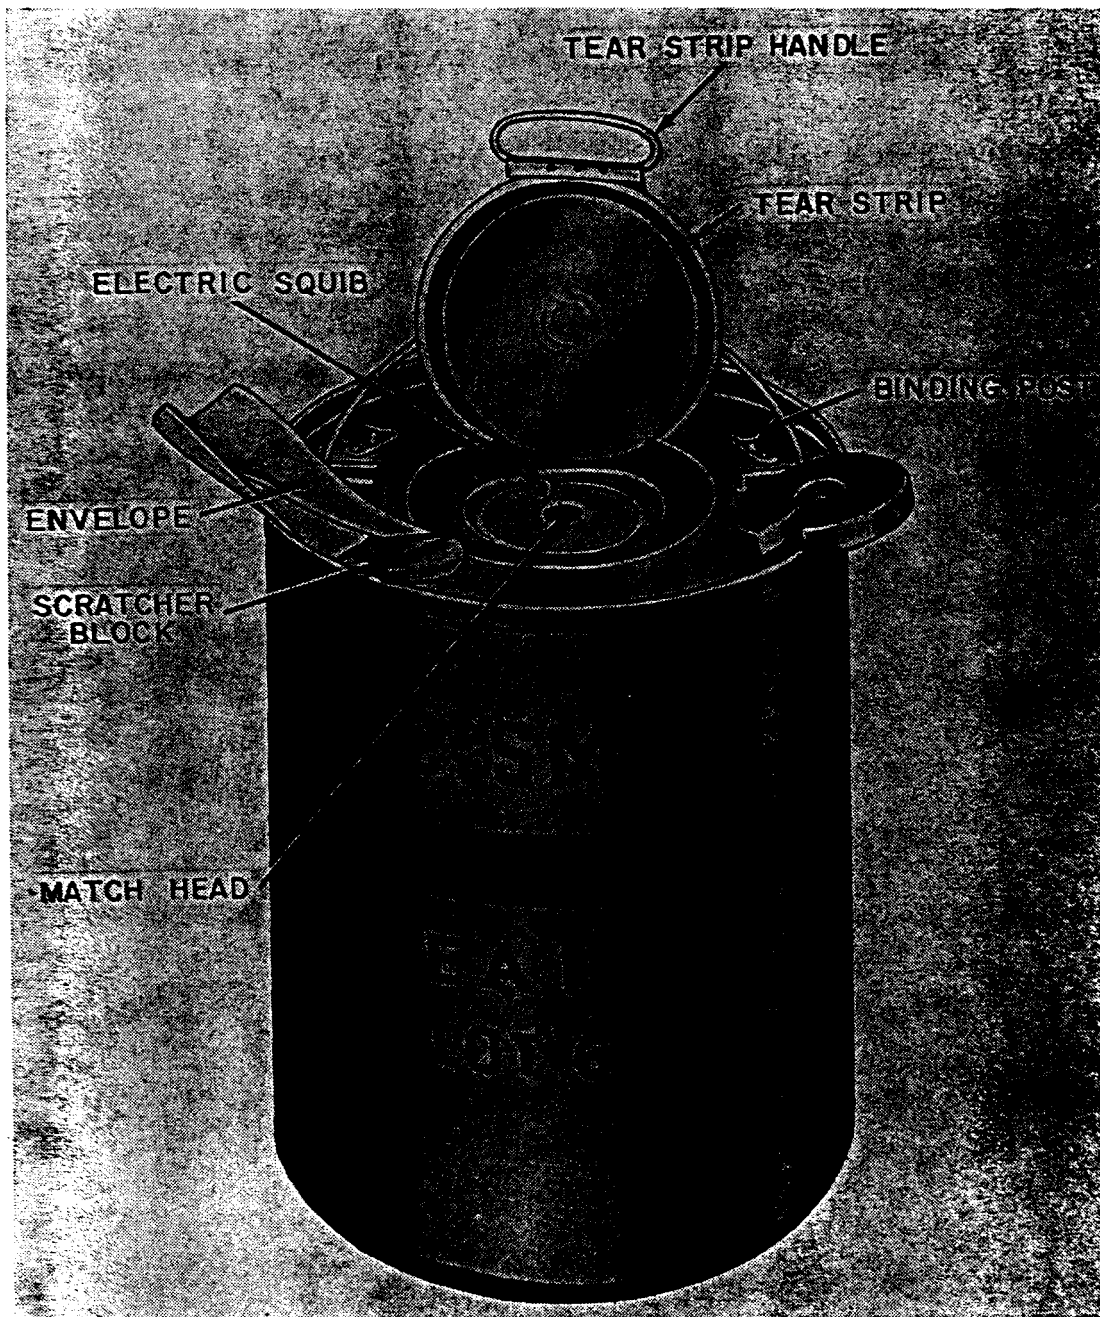

Figure 7. M5 smoke pot prepared for manual ignition.
- (1) *Single.* To prepare an M5 smoke pot for manual ignition (fig. 7), remove the tear strip by pulling the tear strip handle upward, and remove the scratcher block from its envelope. To ignite the pot, draw the scratcher block quickly across the match head. Flame from the match head travels to the starter mixture, which in turn ignites the HC